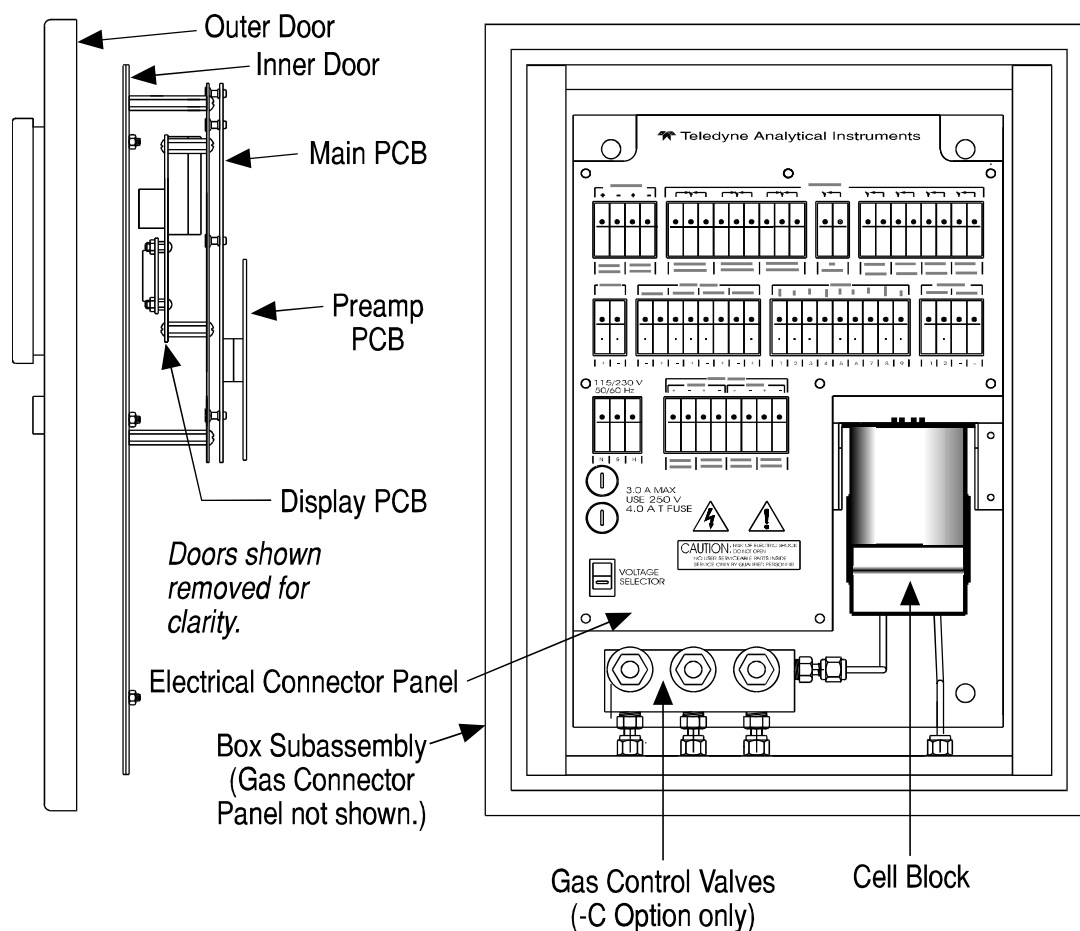
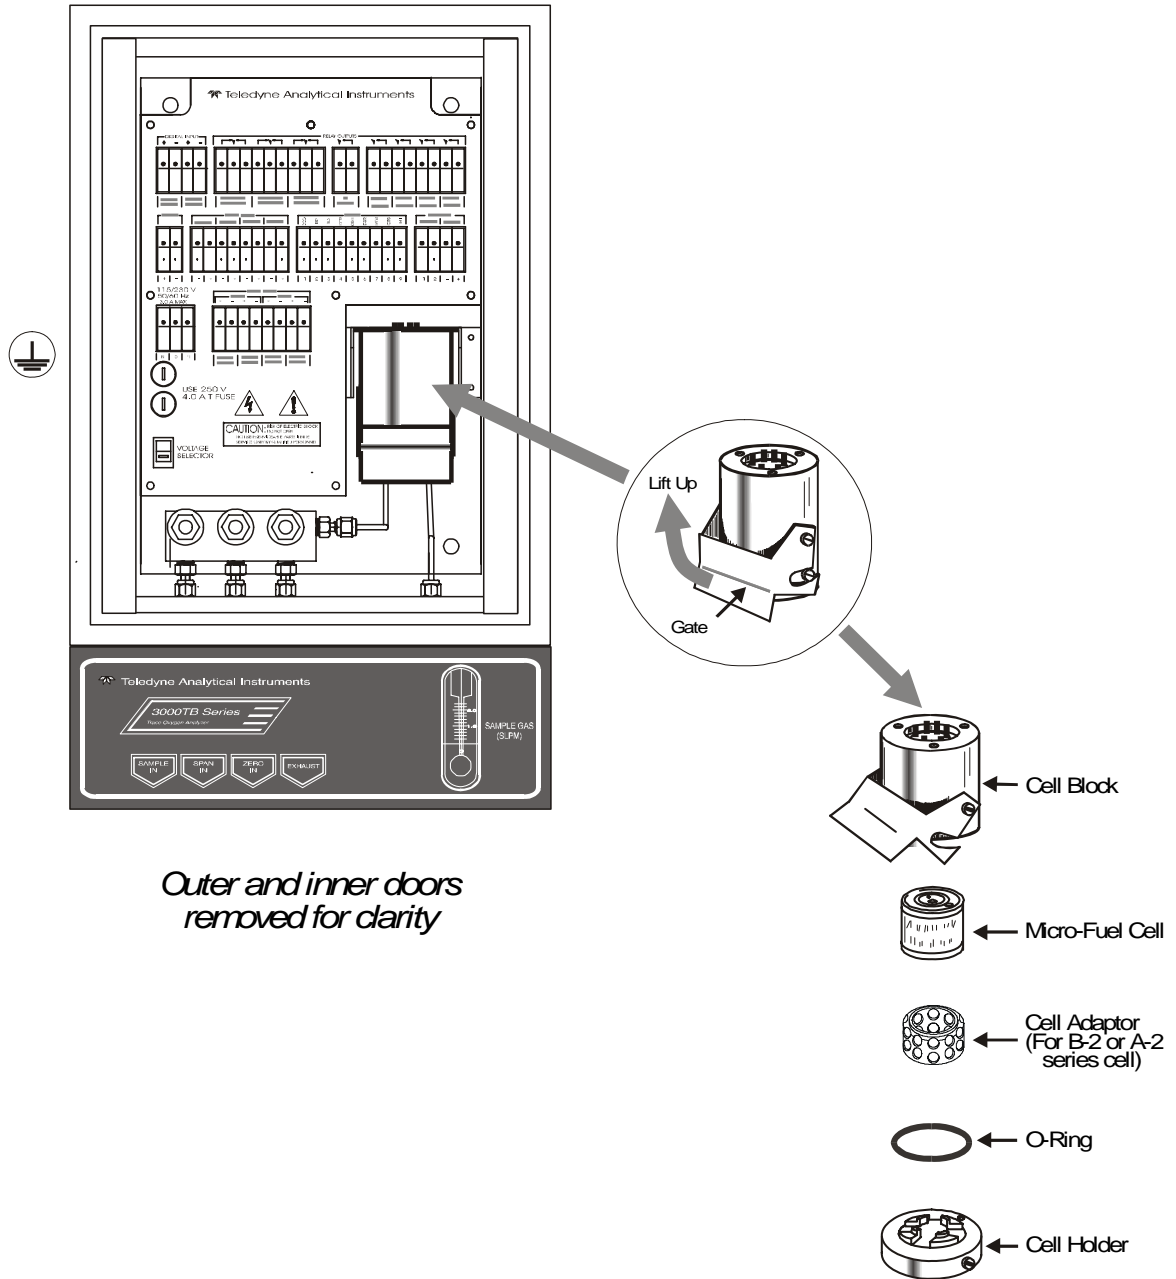
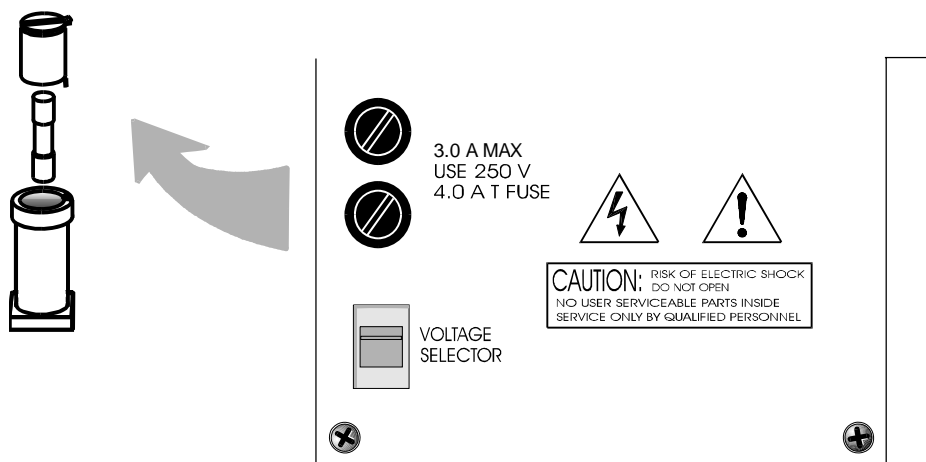

Figure 5-1: Major Internal Components
Figure 5-2: Exploded View of Cell Block and Micro-Fuel Cell
Figure 5-3: Removing Fuse Cap and Fuse from Holder
All internal components are accessed by unlatching and swinging open the front cover, as described earlier. The major internal component locations are shown in Figure 5-1, the cell block is illustrated in Figure 5-2, and the fuse receptacle is shown in Figure 5-3.
The Micro-Fuel Cell is located inside the stainless steel cell block behind the inner door (see Figure 5-1). To remove an existing cell:
The 3000TB-XL requires two 5 x 20 mm, 4 A, T type (Slow Blow) fuses. The fuses are located inside the NEMA-4 housing on the Electrical Connector Panel, as shown in Figure 5-2. To replace a fuse:
2. Place a small screwdriver in the notch in the fuse holder cap, push in, and rotate 1/4 turn. The cap will pop out a few millimeters. Pull out the fuse holder cap and fuse, as shown in Figure 5-3.